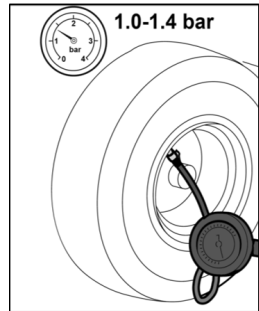

Figure 29
4. Read off the tyre pressure and compare it with the values given on the tyre: 1.0 – 1.4 bar (Figure 29).